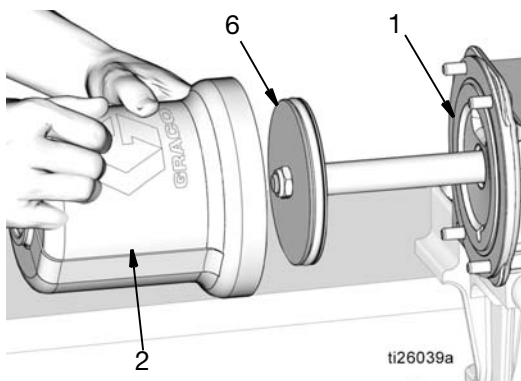

FIG. 51
- a. Use a clean cloth to wipe inside the air cylinder (2) and remove any dirt or contaminants.
- b. Apply a thin layer of grease to the inside surfaces of the air cylinder (2). Slide the air cylinder (2) over the piston (6) and push it all the way down until it is seated tightly to the pump base (1). See FIG. 51.